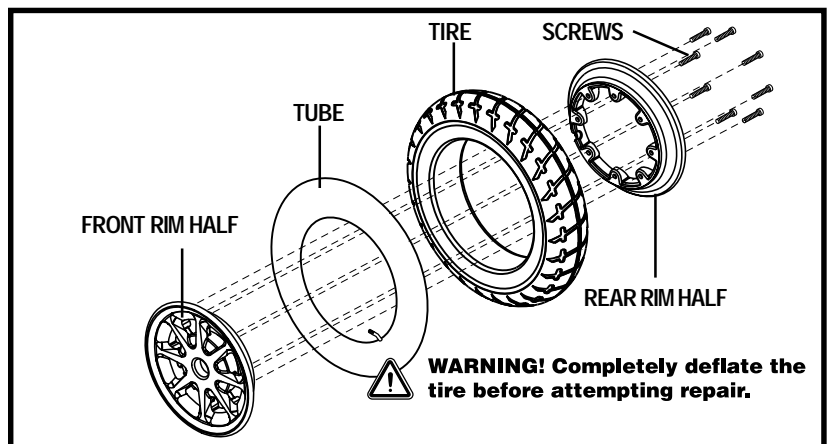

Figure 33. Drive Wheel Disassembled
6. Remove the screws from the rim assembly and separate the front and rear rim. See figure 33.